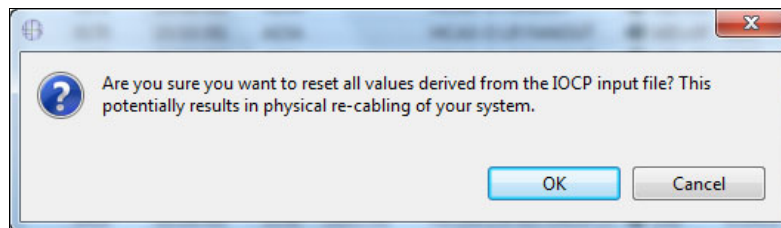

Figure 7-42 CMT - Reset CHPID assignments warning message
3. Click **OK** to confirm the reset (Figure 7-42).